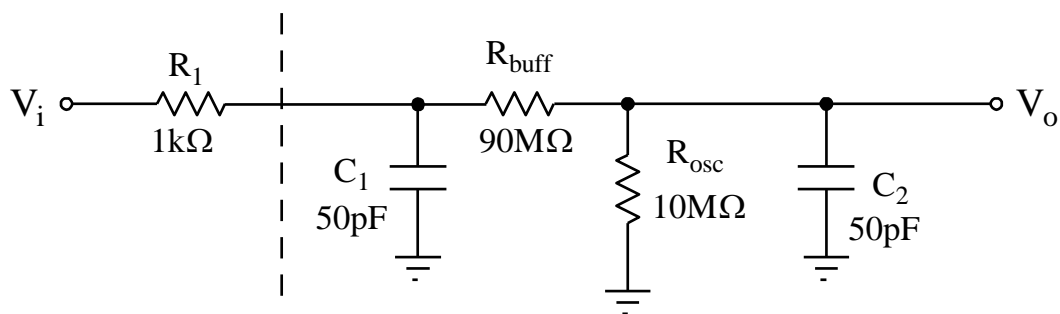

Figure PL1.2(c)
- (c) One way to reduce the effective capacitance loading the original “circuit under test” is buffer the circuit from the oscilloscope input by adding a series resistor R_{buff} between the test circuit and the input of the oscilloscope, as shown in Fig. PL1.2(c).
- (i) Determine the input impedance of the circuit to the right of the dashed line in Fig. PL1.2(b) in terms of C_1 , C_2 , and R_{osc} . Call it $Z_{\text{in}1}$.
- (ii) Determine the input impedance of the circuit to the right of the dashed line in Fig. PL1.2(c) in terms of C_1 , C_2 , R_{buff} , and R_{osc} . Call it $Z_{\text{in}2}$.